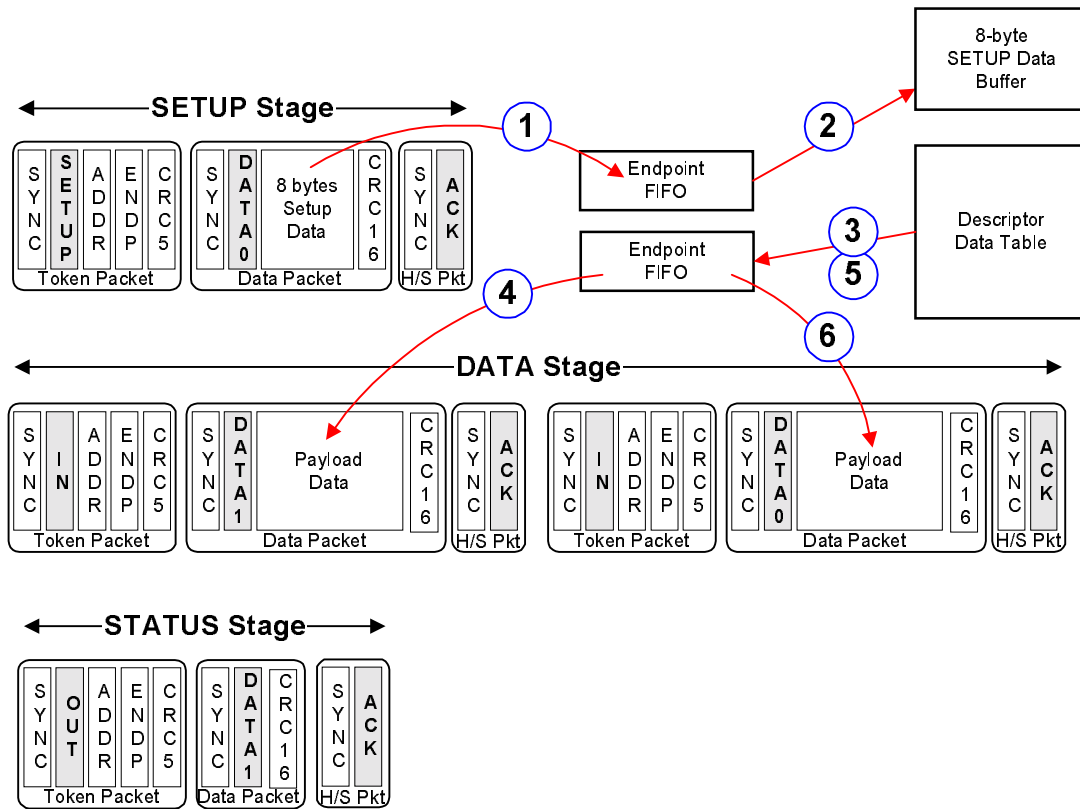

Figure 1. How the 8x930Ax Handles a "Get Descriptor" Request
*Figure 1* shows how conventional USB controllers, such as the Intel 8x930Ax, handle a three-stage USB SETUP transfer called "Get Descriptor". The serial data flowing over the USB is shown as three stages: Setup, Data, and Status. The numbered arrows indicate transfers between the USB, endpoint FIFOs, and microprocessor memory. Significant CPU overhead is required to transfer the data to and from the endpoint FIFOs (2,3,5) and to divide the descriptor table data into packets for transmission using multiple USB data packets (4,6).